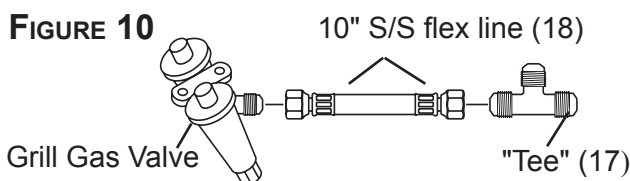

FIGURE 10
Attach one end of the 10" S/S flex line (18) to the end of the grill's gas valve. Attach the other end of the S/S flex line to the brass "tee" (17). FIGURE 10.